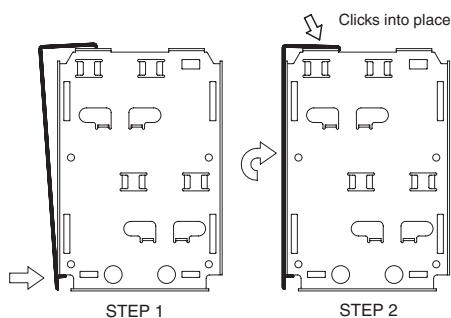

Figure 11
- ⑭ Install fascia. Place groove along top of fascia over endcaps, and snap into place (see Fig. 11). **Fascia is not fully seated until it clicks into place on both ends. Once in place, check for secure fit.**